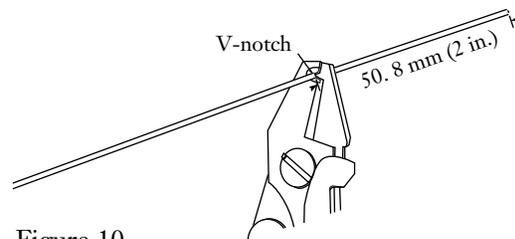

Figure 10
**5.7** Determine the 250  $\mu\text{m}$  coating strip length for your application. Separate the fibers and select one to strip, using a fiber optic stripping tool as described in the tool's instructions, SRP-005-006 (Figure 10).